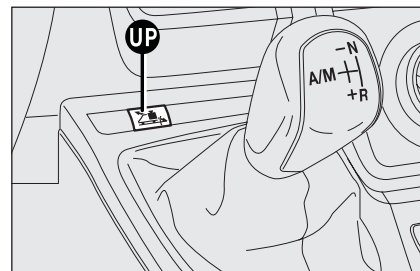

fig. 4
- ☐ the second fully automatic (**AUTO**), where the system decides when to shift gear. This mode allows you to use the **UP** function (steep road function), which allows you to shift gears at higher speeds to allow you to drive up very steep roads easily with any load. To engage this function, press the **UP** button - **fig. 4** between the controls on the dashboard. Select the gear and the operating mode **MANUAL** or **AUTO**) by operating the control lever at any speed.
The **UP** function is turned on by pressing the **UP button fig. 4** located between the controls in the dashboard. After this function is activated the (green) warning light  in the instrument panel comes on together with a confirmation message in the reconfigurable multifunction display (see next paragraph).